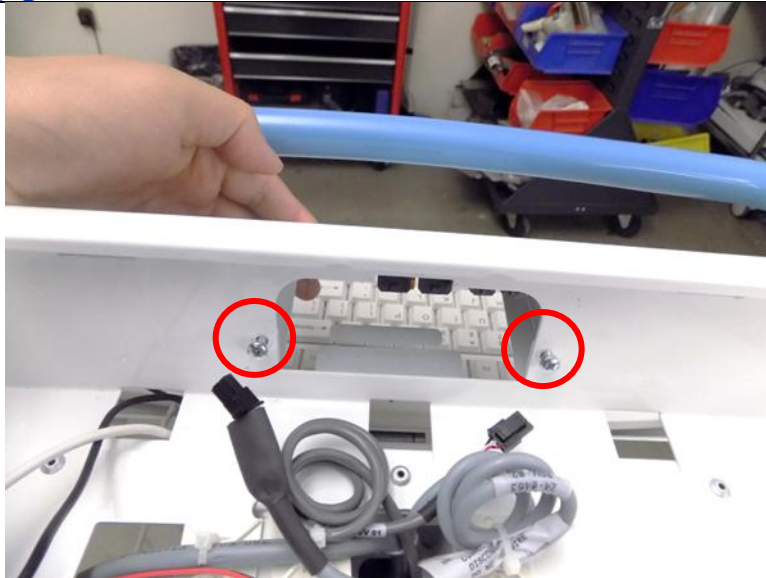

Figure 5: Mount the New 51-5405 Status Module
5. Mount the new 51-5405 status module. Since an impact driver may strip the screw holes, use a handheld Phillips Screwdriver to install the new supplied self-tapping screws and secure the unit in place as shown in Figure 5. Do not fully tighten the screws at this point.